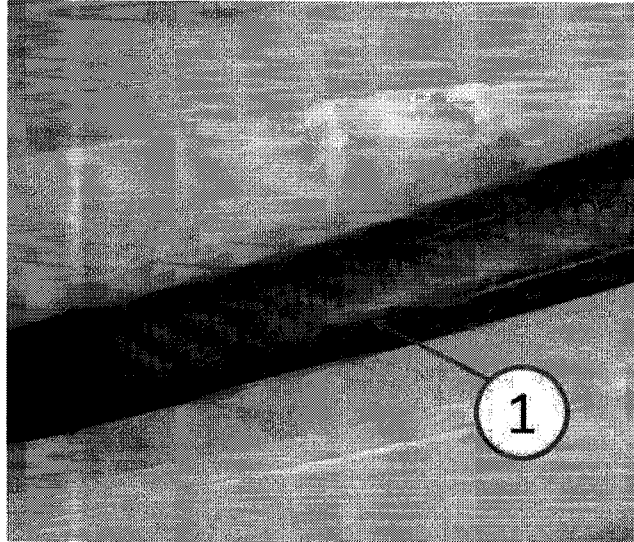

Fig. 6 Polish Residue
4. Apply Meguiars M86 Solo™ Cut & Polish Cream or equivalent directly to rotary Meguiars W8207 Soft Buff® 2.0 polishing pad or equivalent and begin using moderate pressure and overlapping passes followed by 2-3 light pressure passes (Fig. 6).